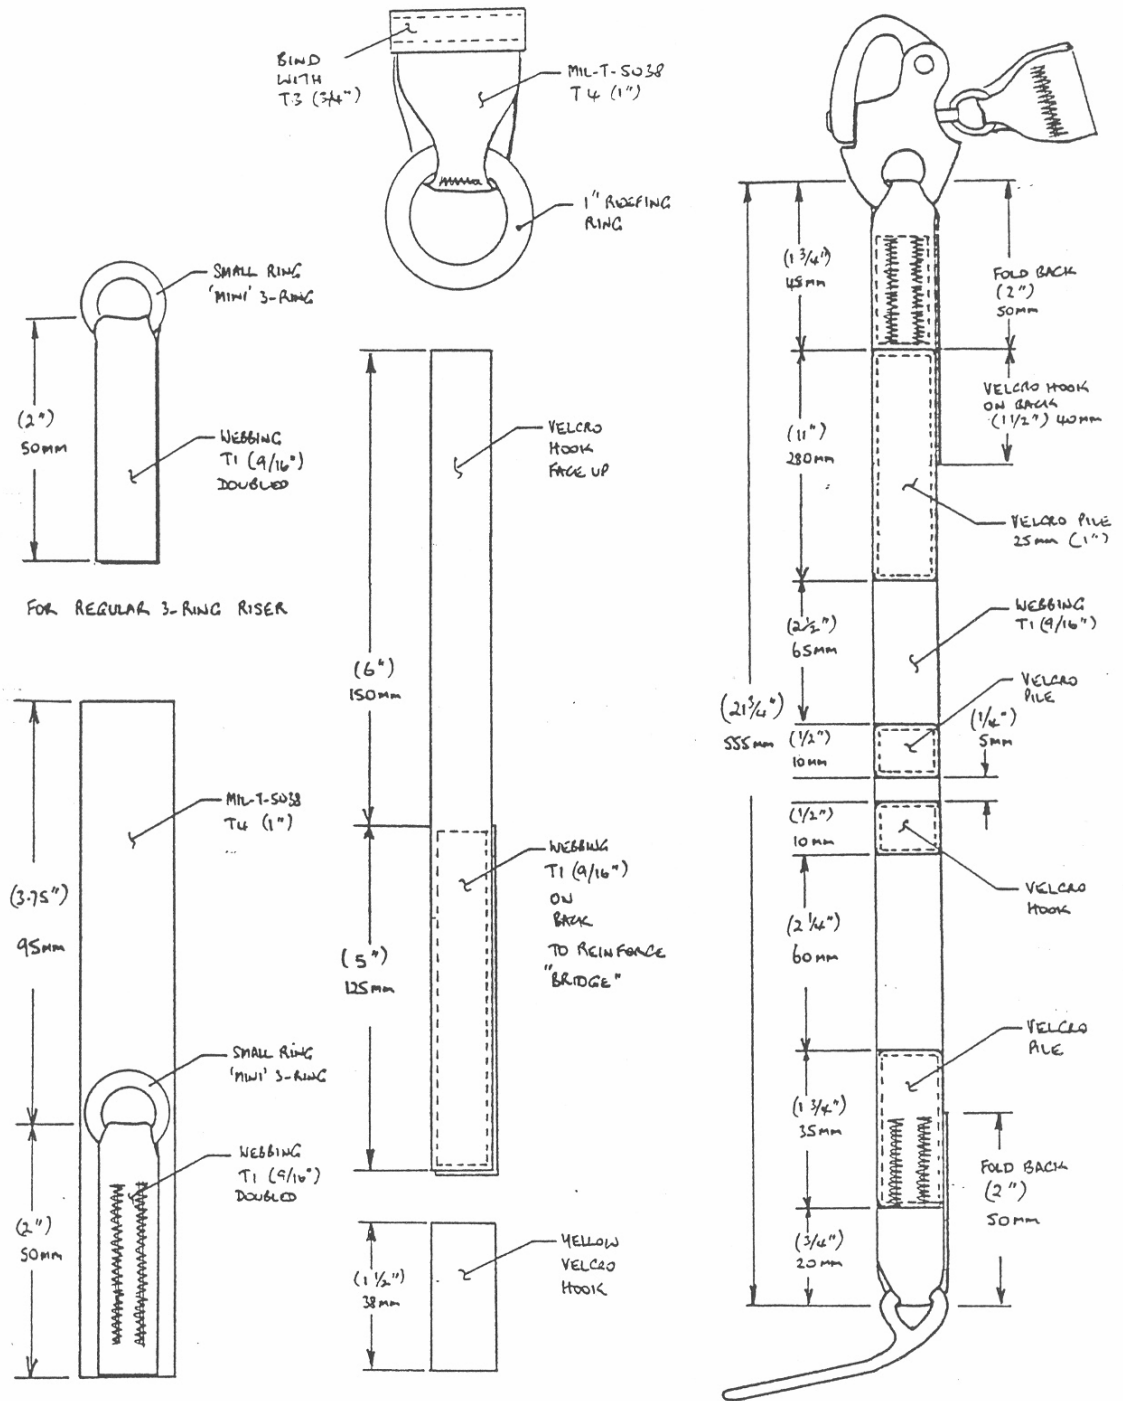

Fig. 1
- Vector RSL or parts necessary to manufacturer (see Fig 1)
Step 1. By reference to Fig.1 following, cut and assemble the component parts necessary to install the Vector RSL.